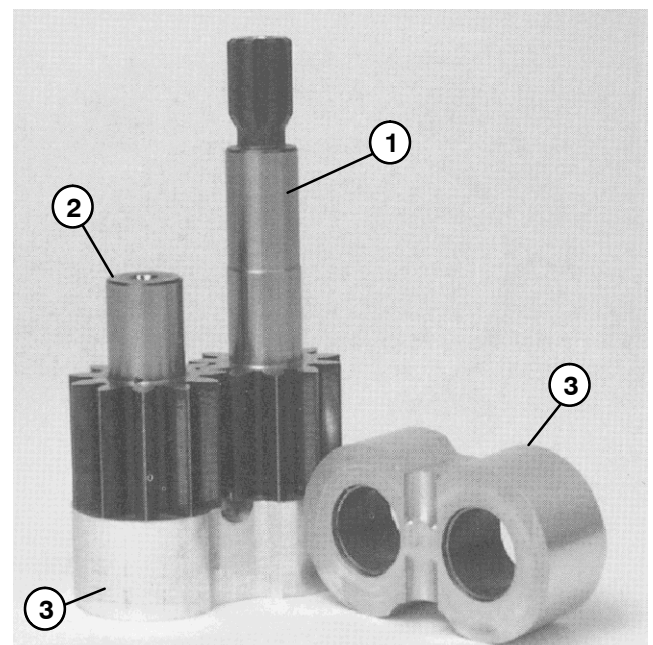

Figure 72
3. Inspect drive gear, idler gear and bearing blocks (Fig. 72) for the following: